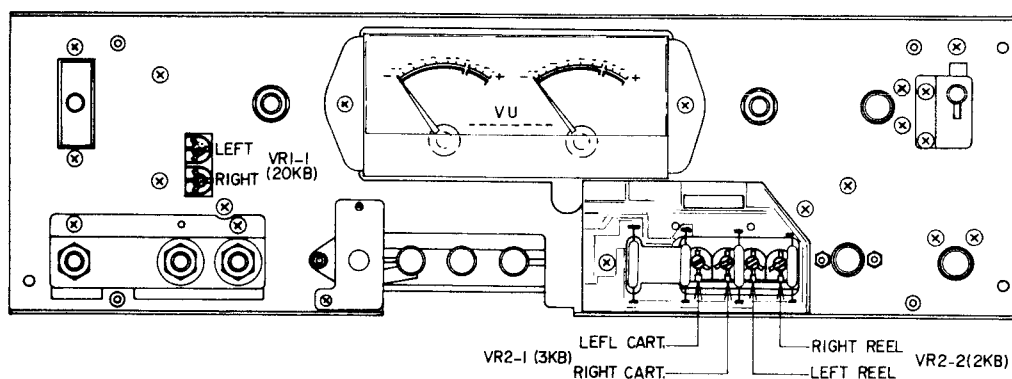

Fig. 4
#### (B) Recording and Playback (See Figs. 4 and 5) (Reel)
5. If the Line Output Level does not reach "0" VU, turn Volume VR-202 (2 KB) until the Line Output reaches "0" VU ( $\pm 2$  dB). Repeat this process 2 or 3 times (from item 3).
#### (C) Recording and Playback for Cartridge (See Fig. 4 and 5)
5. With Volume Controls (VR1a or VR2a) at maximum, adjust VR1 (3KB) so that the Line Output Value is +2 dB ( $\pm 2$  dB). Repeat this process 2 or 3 times (from item 3).